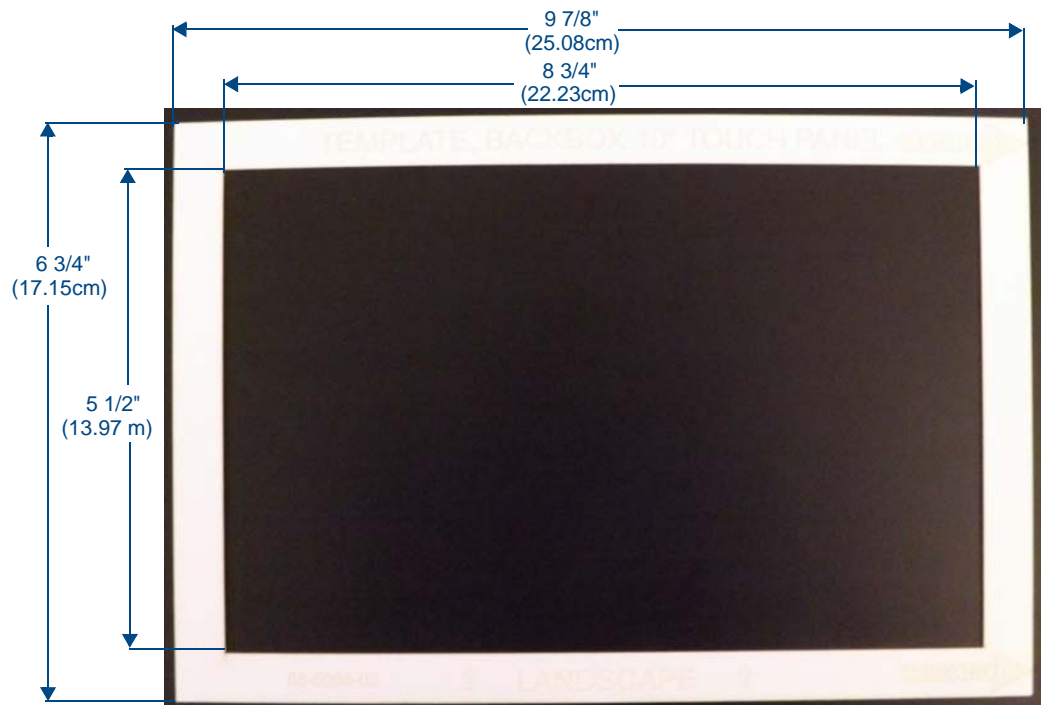

FIG. 15 MXD-1000 Installation Template
2. For best results, use the MXD-1000 Installation Template (**68-5968-03**) to ensure proper placement (FIG. 15). The template is marked on one side with directions for both landscape and portrait installations to ensure that the touch panel and back box are properly aligned.